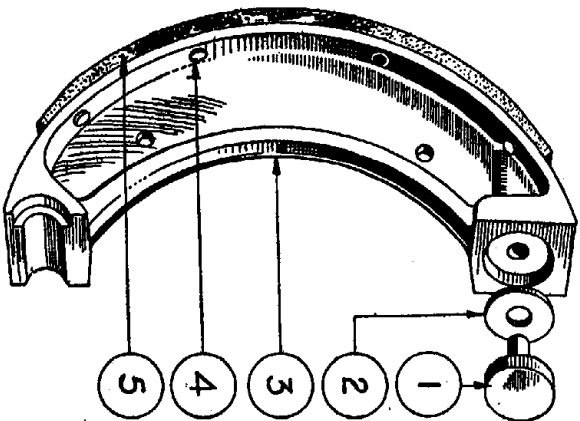

FIG. 42.—BRAKE SHOE AND THRUST PIN WITH PACKING WASHER.
The dotted outline shows the most effective position. In the position shown, either new linings or packing under the thrust pins (Fig. 42) are required.
Minor adjustment is effected by altering the position of the front-brake cable adjuster and finger adjuster on rear-brake rod. Major adjustment, to compensate lining wear, is achieved by packing washers (2) under the thrust pins (1), Fig. 42.
The dotted outline shows the most effective position. New linings or packing washers under the thrust pin (Fig. 42) are necessary when the arm takes up the position shown.